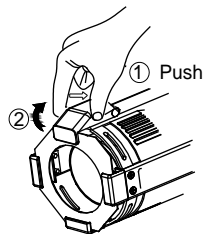

Figure 1
- Remove the color frame from its holder. (Figure 1)